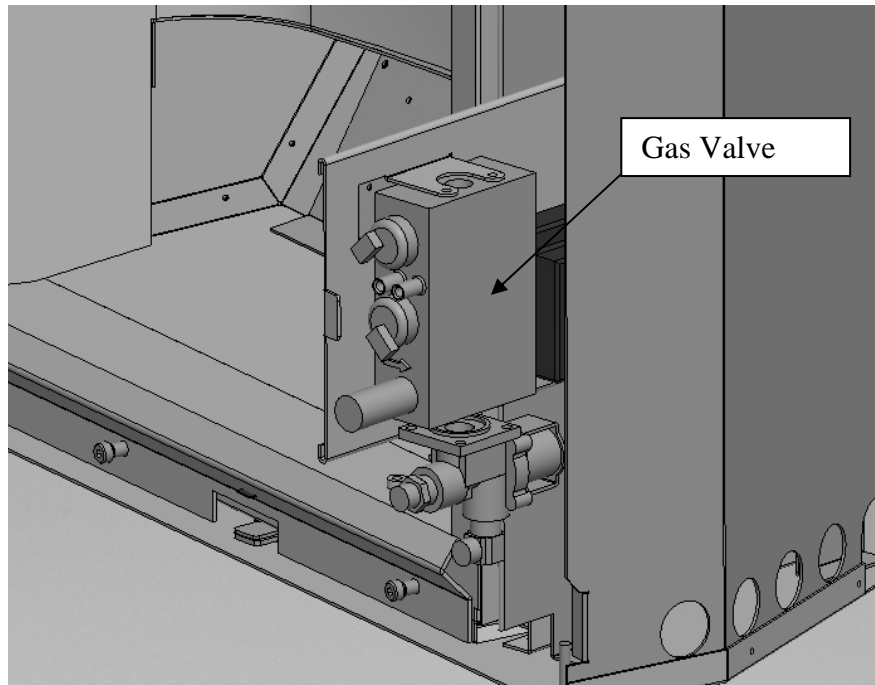

Figure 3
11. On the right side of the insert locate the gas valve service tray. See *Figure 3*. Carefully pull the tray out into the room approximately 4-6". Locate the valve on the tray.